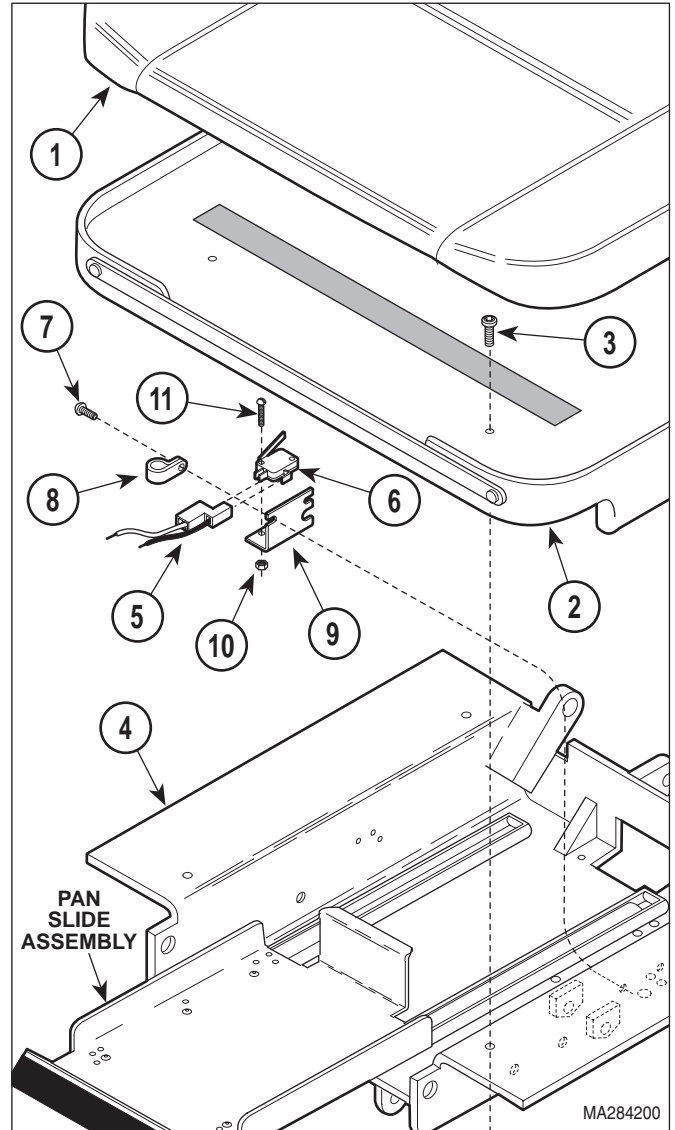

Figure 4-23. Pan Safety Limit Switch Removal / Installation / Adjustment
- (1) Unplug table power cord from wall outlet.
- (2) Remove upholstered seat (1, Figure 4-23) from seat board assembly (2).
- (3) Remove four screws (3) and seat board assembly (2) from seat weldment (4).
- (4) Run FOOT DOWN function all the way down.
- (5) Pull pan slide assembly out.
- (6) Disconnect wire harness (5) from pan safety limit switch (6).
- (7) Remove two screws (7), cable clamp (8), and pan switch bracket (9) from seat weldment (4).